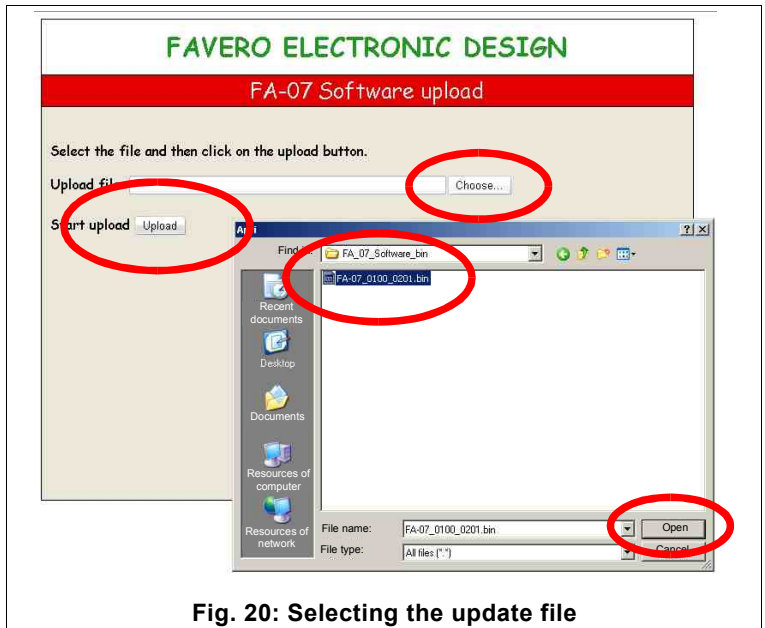

Fig. 20: Selecting the update file
6. On the page that appears on your computer (see Fig. 20), click on the "Choose..." button to browse the computer's folders and select the previously saved update file (of the type "FA-07_0100_0201.bin"). Then click on "Open" to confirm your choice.